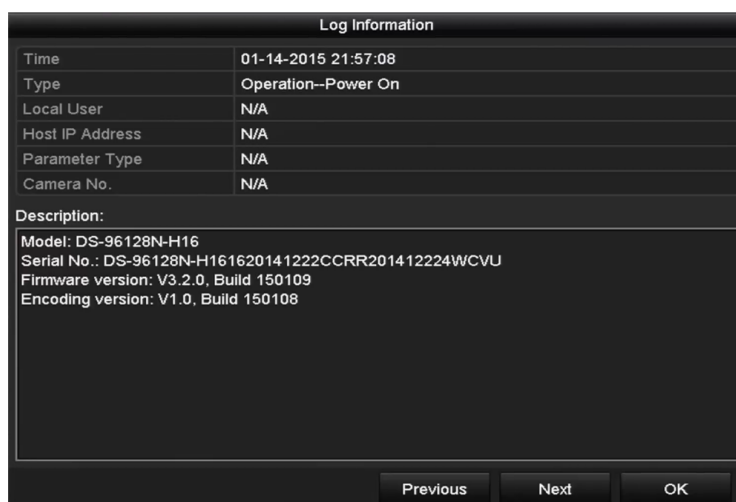

Figure 12-4 Log Details
Step 5 You can click the  button of each log or double click it to view its detailed information, as shown in Figure 12-4. And you can also click the  button to view the related video files if available.